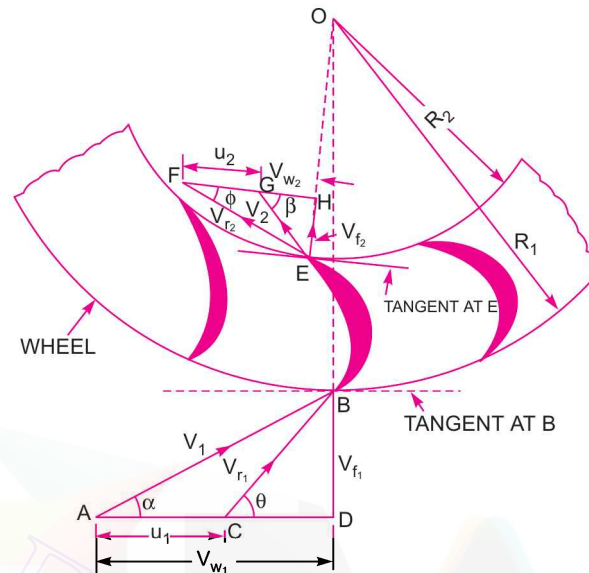

Fig. 17.23 Series of radial curved vanes mounted on a wheel.
**17.4.6 Force Exerted on a Series of Radial Curved Vanes.** For a radial curved vane, the radius of the vane at inlet and outlet is different and hence the tangential velocities of the radial vane at inlet and outlet will not be equal. Consider a series of radial curved vanes mounted on a wheel as shown in Fig. 17.23. The jet of water strikes the vanes and the wheel starts rotating at a constant angular speed.
The velocity triangles at inlet and outlet are drawn as shown in Fig. 17.23.